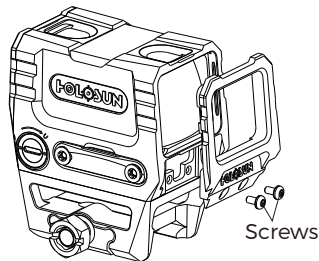

Fig 10
- 1) Use the included T10 Torx tool to loosen and remove the two screws. (See Fig.10)